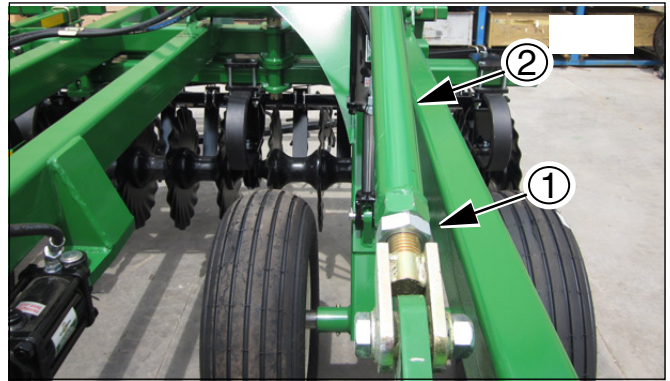

Figure 31
16. As far as leveling the wings to the center section, if the wings were pre-leveled as shown in **“Wing Adjustment”** on page 19, then further adjustment should be done with the down pressure setting. If the wings are running low, back off the down pressure. If wings are running high, increase the down pressure, see **“Hydraulic Down Pressure 1800-3000”** on page 23, **“Hydraulic Down Pressure 3500”** on page 24 or **“Hydraulic Down Pressure 4000”** on page 25 for complete down pressure adjustment. If no down pressure is being used, set the wings to match the depth of the center *Refer to Figure 31*. Start by loosening jam nut ① with turnbuckle wrench (stored on rear pegs of hitch). Turn the turnbuckle ② to adjust. (Shorten turnbuckle to run shallower, lengthen to run deeper).